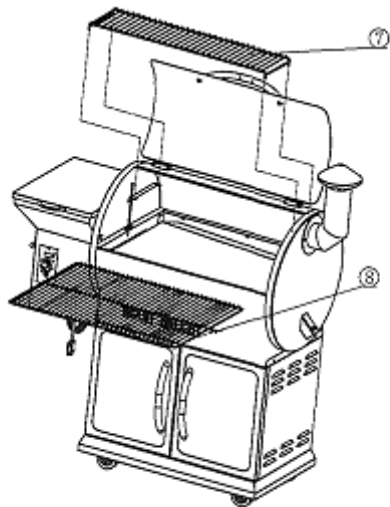

FIG14
Position the Porcelain Grill (8) inside the cooking area and locate the Warming Rack (7) on the rack support inside the chamber. As shown in FIG14